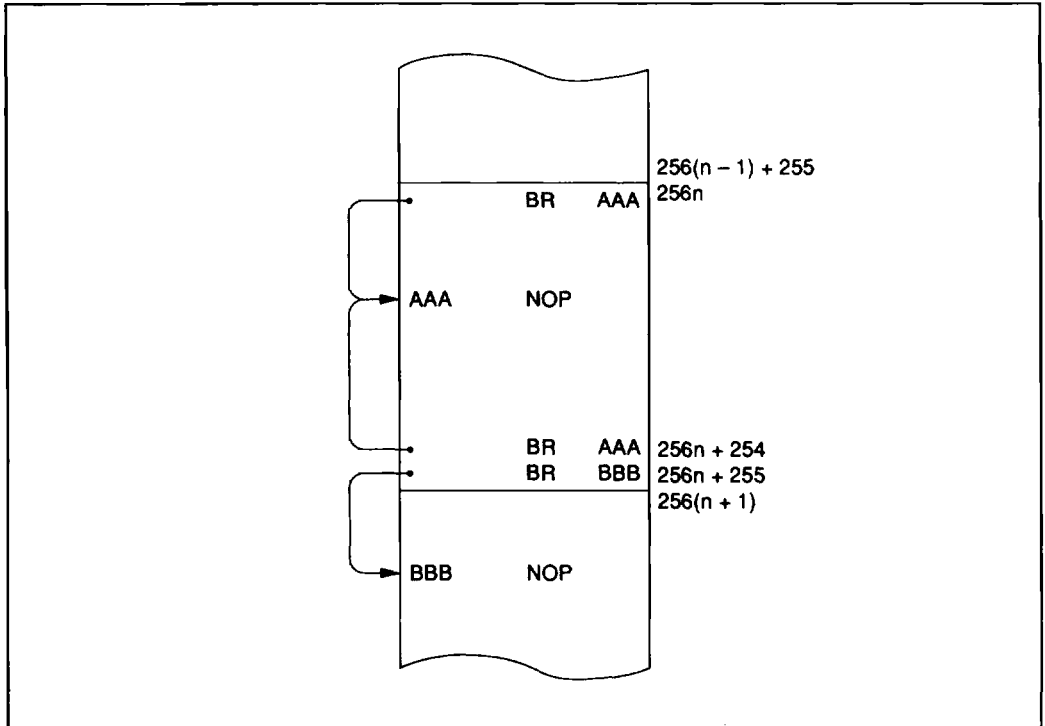

Figure 55 Branching when Branch Destination is on a Page Boundary
**Current Page Addressing Mode:** The MCU has 64 pages of ROM with 256 words per page. A program can branch to any address in the current page by executing the BR instruction. This instruction replaces the eight low-order bits of the program counter (PC7–PC0) with eight-bit immediate data. If the BR instruction is on a page boundary (address 256n + 255), executing that instruction transfers the PC contents to the next physical page, as shown in figure 55. This means that the execution of the BR instruction on a page boundary will make the program branch to the next page.